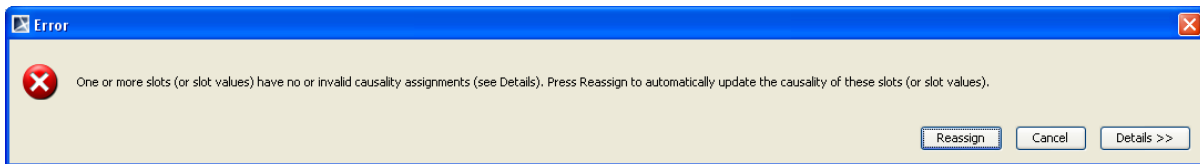

Figure 3.9 ParaMagic Browser for Instance_01, before solution
- ii. A message as shown in Figure 3.9 will appear. This indicates that no causalities have been assigned.